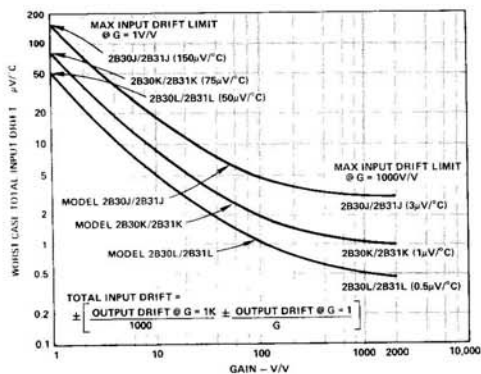

Figure 10. Total Input Offset Drift (Worst Case) vs. Gain
**Input Offset Voltage Drift:** Models 2B30/2B31 are available in three drift selections:  $\pm 0.5$ ,  $\pm 1$  and  $\pm 3\mu V/^{\circ}C$  (max, RTI,  $G = 1000V/V$ ). Total input drift is composed of two sources (input and output stage drifts) and is gain dependent. Figure 10 is a graph of the worst case total voltage offset drift vs. gain for all versions.